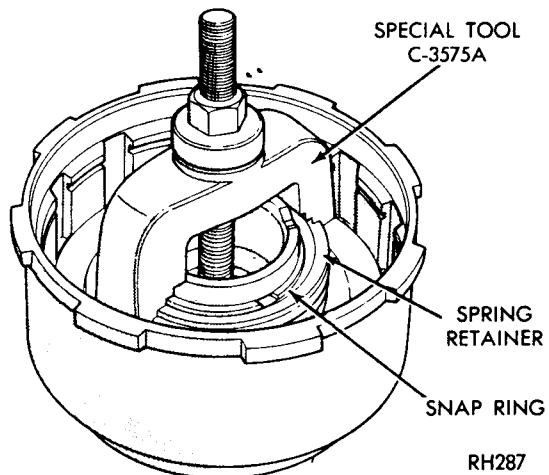

Fig. 19—Front Clutch Spring Retaining Snap Ring (A-904T and A-999)
(1) Remove large waved snap ring that secures pressure plate in the clutch piston retainer. Lift pressure plate and clutch plates out of the retainer.
(2) Install compressor Tool C-3575A, over piston spring retainer (Fig. 19). Compress spring and remove snap ring, then slowly release tool until spring retainer is free of the hub. Remove tool, retainer, and spring.
(3) Invert clutch retainer assembly and bump it on a wooden block to remove the piston. Remove seals from the piston and clutch retainer hub.
(3) Place spring on piston hub and position spring retainer and snap ring on the spring. Compress spring with Tool C-3575A (Fig. 19), and seat snap ring in hub groove. Remove compressor tool.
(4) Lubricate all clutch plates, install one steel plate followed by a lined plate (disc) until the number given in specifications is installed. Install pressure plate and snap ring. Make sure snap ring is properly seated.